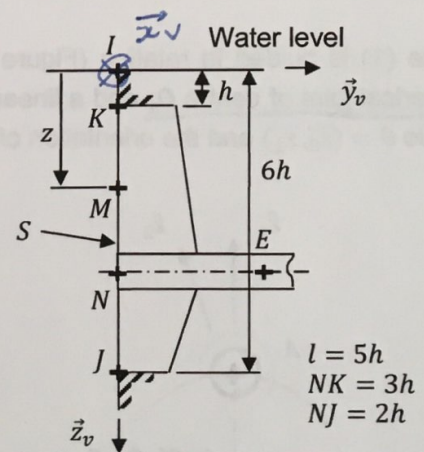

Figure 7 : Partial view of flap (5)
Flap (5) is totally immersed so that  $IK = h$ . At any point  $M$  ( $\overline{IM} = x\overline{x_0} + z\overline{z_0}$ ) of surface  $S$  (Figure 7), the elementary force exerted by the water pressure on the elementary surface  $dS$  controlled by point  $M$  reads  $d\vec{F} = \rho g z dS \overline{y_v}$  where  $\rho$  is the water density,  $g$  is the acceleration of the gravity field and  $z$  is the depth at point  $M$ . The surface  $S$  of the flap is rectangular, symmetrical with respect to plane  $(I, \overline{y_v}, \overline{z_v})$ , of height  $l$  in the direction of  $\overline{z_v}$  and width  $L$  in the direction of  $\overline{x_0}$ .